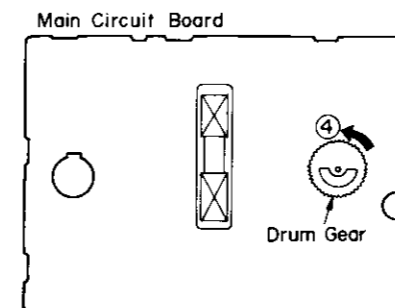

Fig. 7
1. Turn the drum gear fully in the direction of the arrow ④ (see Fig. 7).